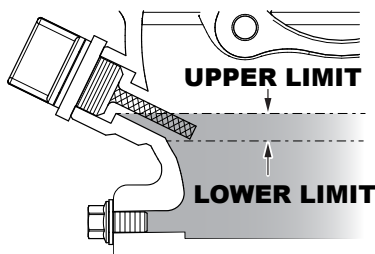

Figure 6. Engine Oil DipStick (Oil Level)
4. If the oil level is low (See Figure 6), fill to the edge of the oil filler hole with the recommended oil type (Table 3 and Table 6). Maximum oil capacity is 1.37 quarts(1.3 liters).